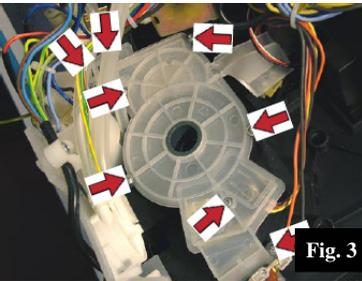

Fig. 3
- Remove the flow meter by means of a screwdriver, as shown in figure 3.